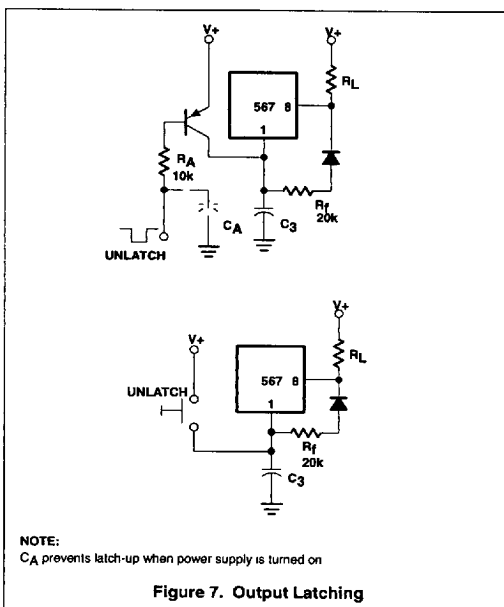

Figure 7. Output Latching
**OUTPUT LATCHING** (Figure 7)